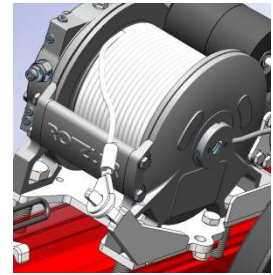

Figure 50
- Then pull the cable tight and roll it up (see figure 50).